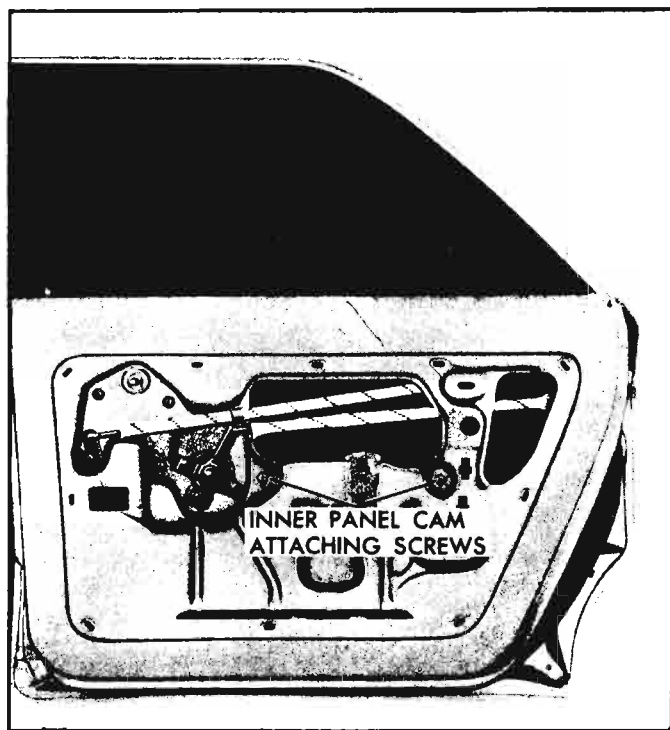

Fig. 10-63—Rear Door Window Vertical Guide Roller Attachment
2. Remove rear door panel caps (fig. 10-63).
2. To correct condition where glass is cocked in glass run channels, loosen door window inner panel cam front and rear attaching screws, adjust cam as required and tighten screws (see fig. 10-63).
1. Raise door window. Remove door trim assembly and detach inner panel water deflector sufficiently to expose inner panel cam attaching screws (see fig. 10-63).